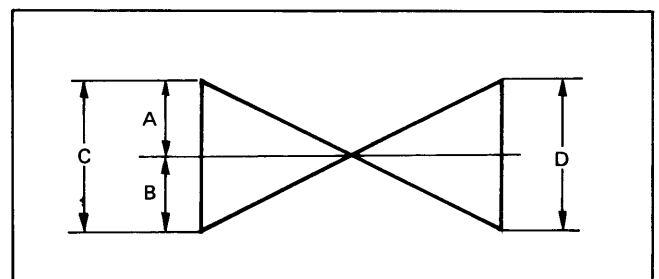

Fig. 30
- 13) Disconnect the oscilloscope from Pin ⑤ of connector C16, and connect the oscilloscope to **TPC3**.
- 14) Adjust H. Sawing waveform Adj. VR (R7483) so that the waveform is  $A = B$  as shown in Fig. 30.
- 15) Adjust V. Sawing waveform Adj. VR (R7485) so that the waveform is  $C = D = 0.7V_{p-p} \pm 0.2V_{p-p}$  as shown in Fig. 30.